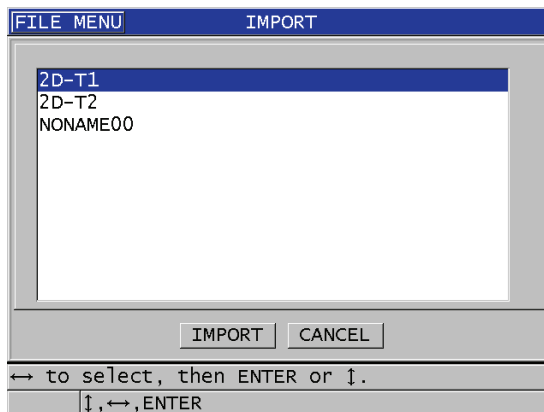

Figure 14-6 Example of the IMPORT screen
6. In the **IMPORT** screen (see Figure 14-6 on page 245):